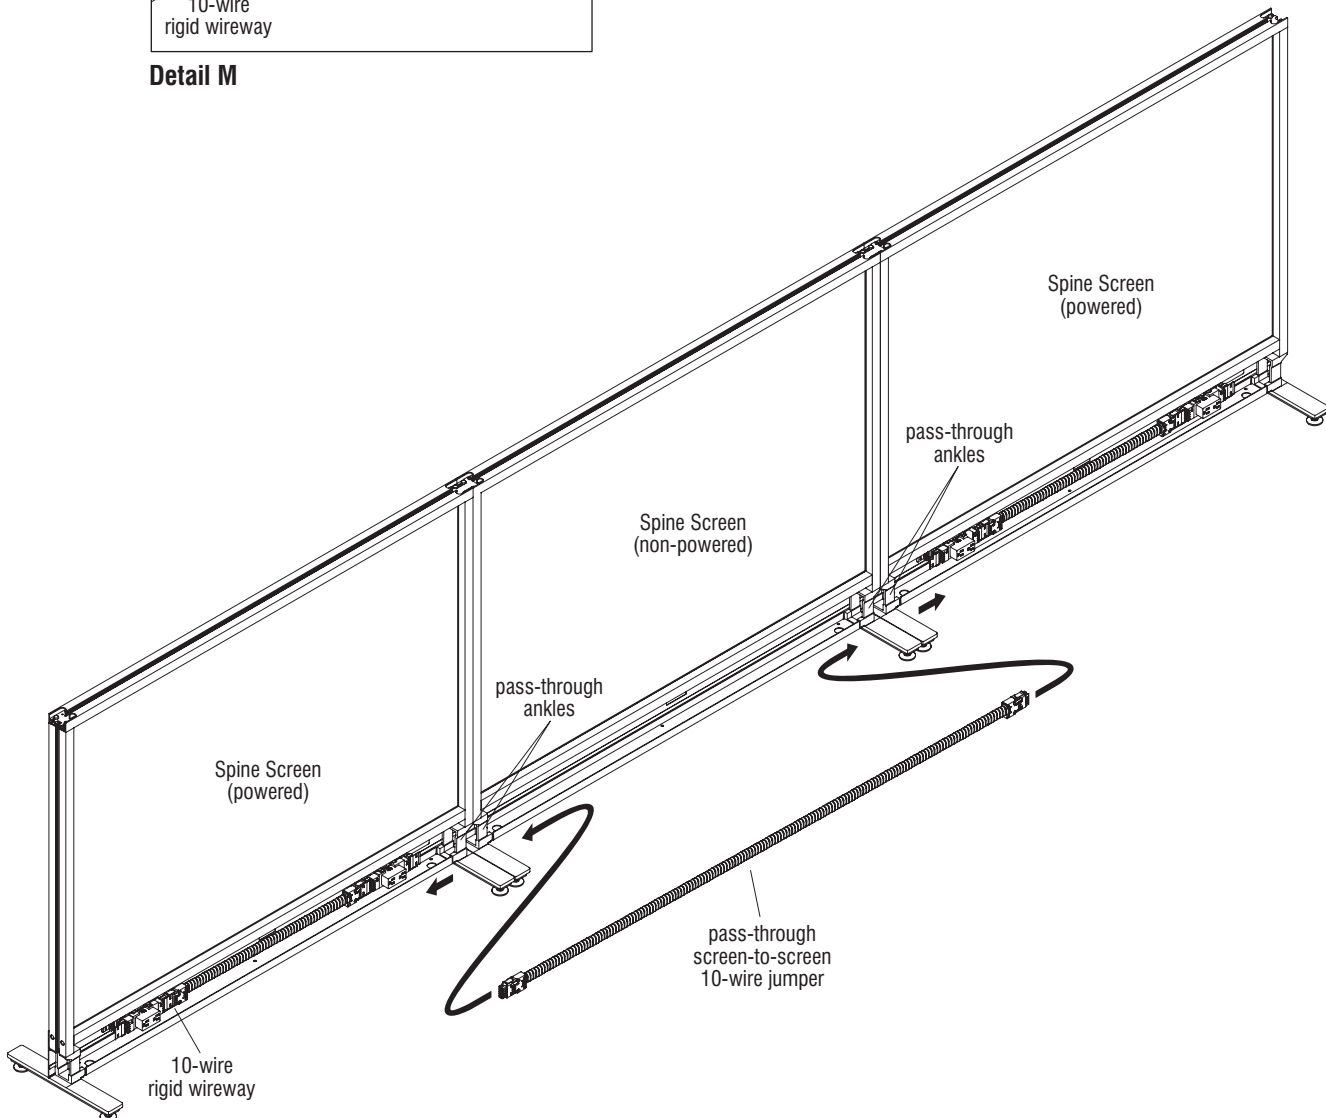

Figure 7
1. At the location specified for a pass-through screen-to-screen jumper, route the jumper through the pass-through ankles at each end of the non-powered screen, then plug the ends into each rigid wireway of the powered Spine Screens (Figure 7 & Detail M).